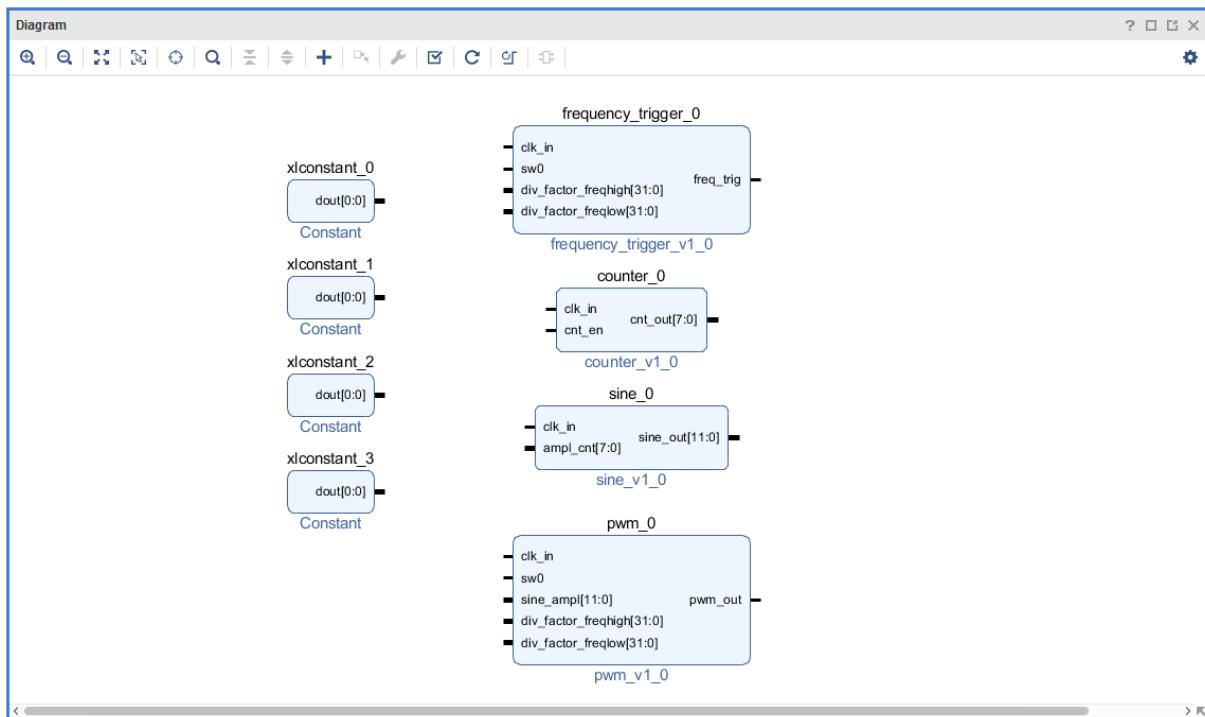

Figure 12.51: IP Integrator design canvas with instantiated Constant IPs
17. The next IP necessary for our design is the **Constant** IP. Add **Constant** IP four times into the block design. Two **Constant** IP instances will be connected to the **div_factor_freqhigh(31:0)** and **div_factor_freqlow(31:0)** ports of the **frequency_trigger_v1_0** module and remaining two instances to the **div_factor_freqhigh(31:0)** and **div_factor_freqlow(31:0)** ports of the **pwm_v1_0** module, see Figure 12.51.